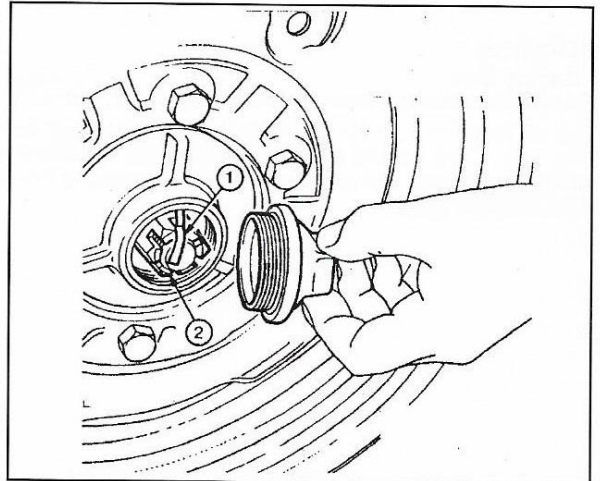

Fig. 101
2. Remove the spilt pin (1, Fig. 101) and tighten the castellated nut (2) to torque of 80 Nm (60 lbf ft), then slacken off the nut to the nearest pin hole to give the correct end float: Fit a new split pin.